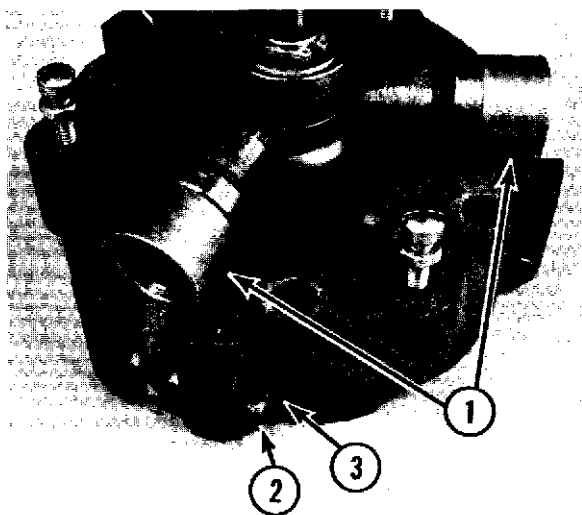

Fig. 9-17
- (6) Install the three clutch arm assemblies (1, Fig. 9-17).
- (7) Install the pin (2, Fig. 9-17) and cotter pin (3, Fig. 9-17).